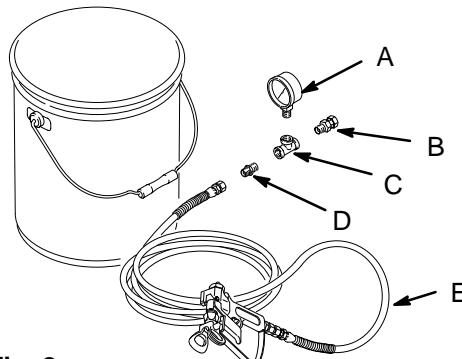

Fig. 8 \_\_\_\_\_ 01201
2. Set up the system as shown in Fig. 8.